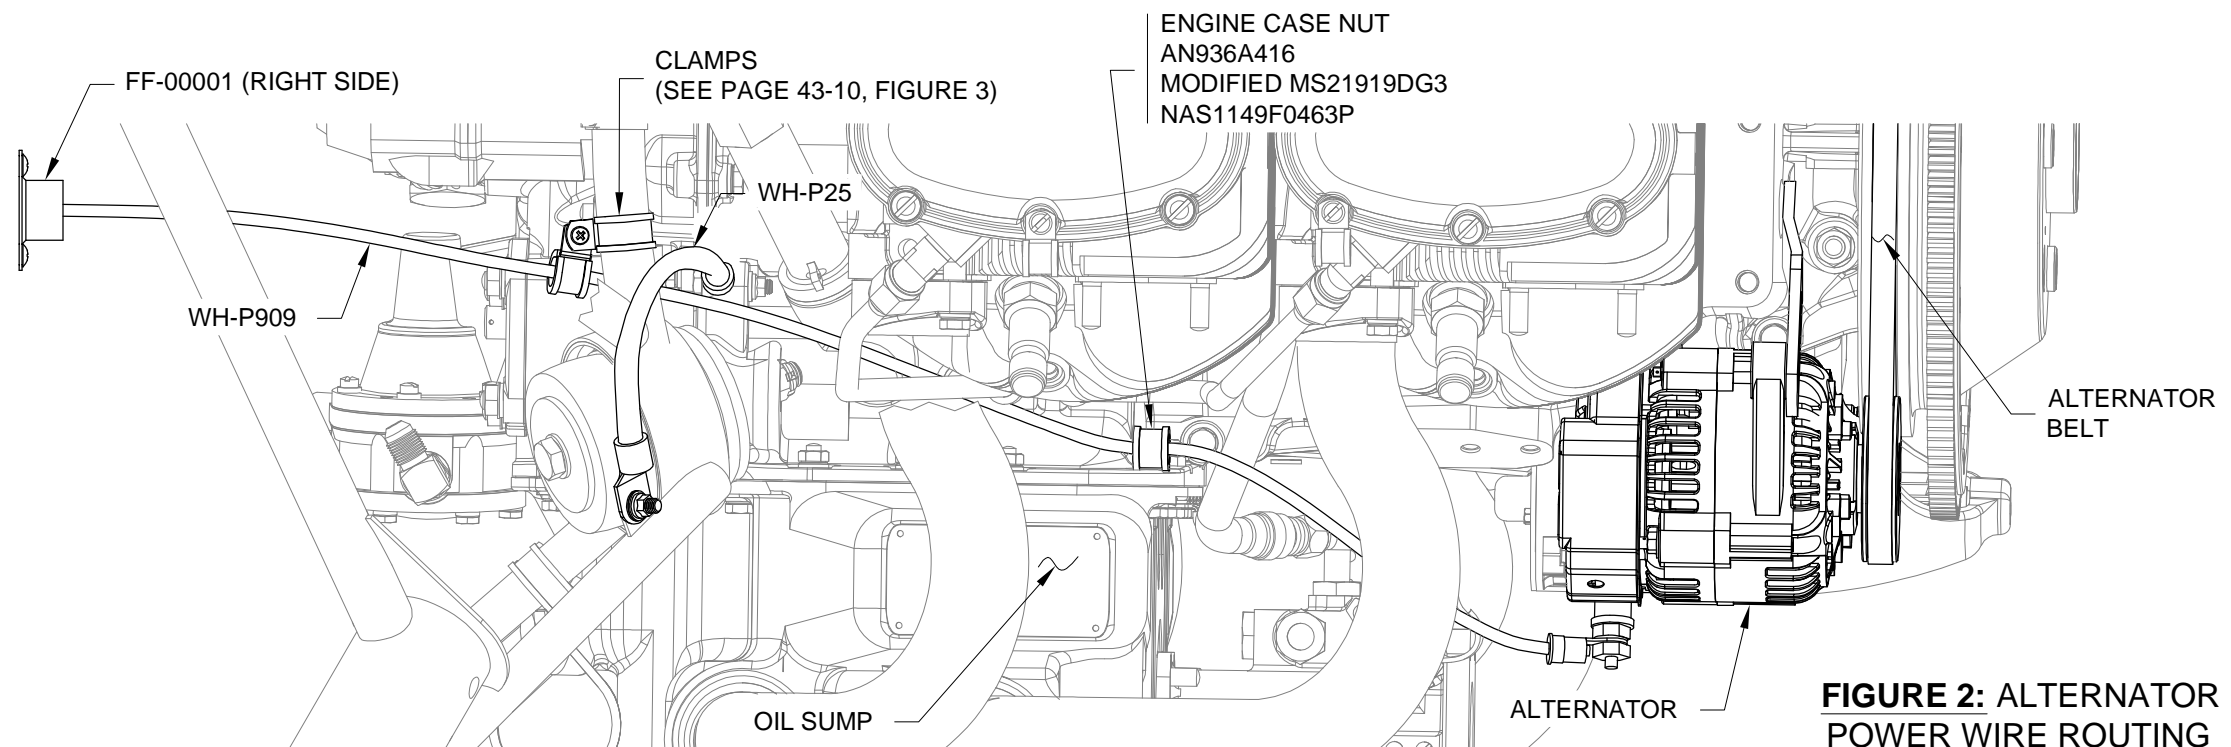

FIGURE 2: ALTERNATOR POWER WIRE ROUTING
Step 4: Route the WH-P909 Alternator Power Wire as shown in Figure 2.